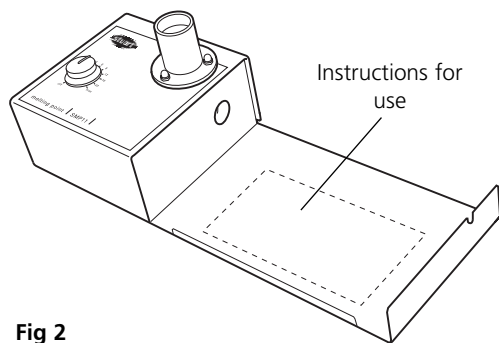

Fig 2
2. (First time only) Once the unit is unpacked, select the appropriate choice of self adhesive instruction label from the multi-language set provided. Peel off the backing and stick the label onto the large recessed metal area on the right side of the SMP11 (see Fig 2). Apply the label carefully using a flat object to smooth away air bubbles.